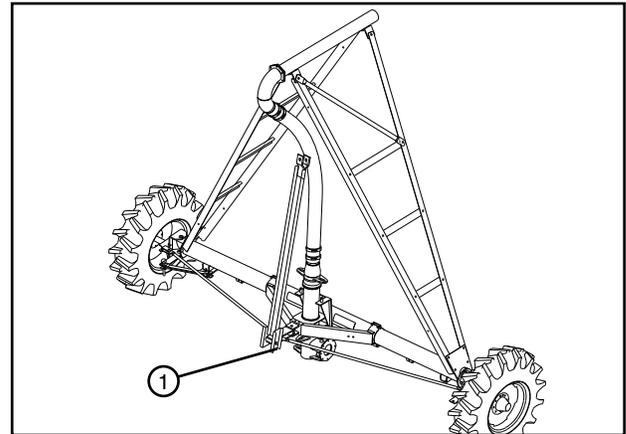

Figure 37-2 1. Riser Pipe
2. Disconnect the water supply line from riser pipe. See figure 37-2.